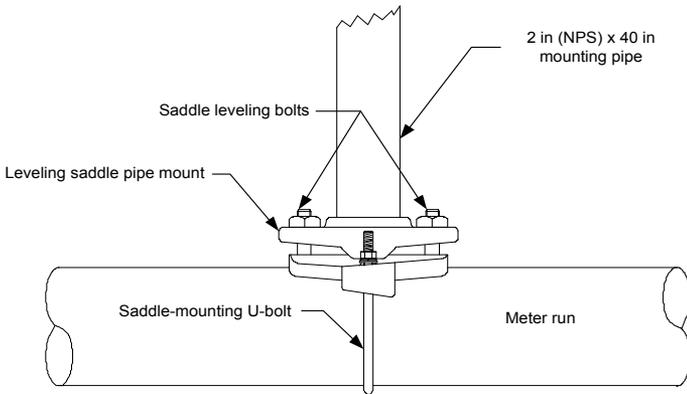

Figure 2: Mounting pipe positioned on meter run
1. Position the pipe saddle on the meter run and temporarily attach the saddle to the meter run pipe using the associated hardware (Figure 2).